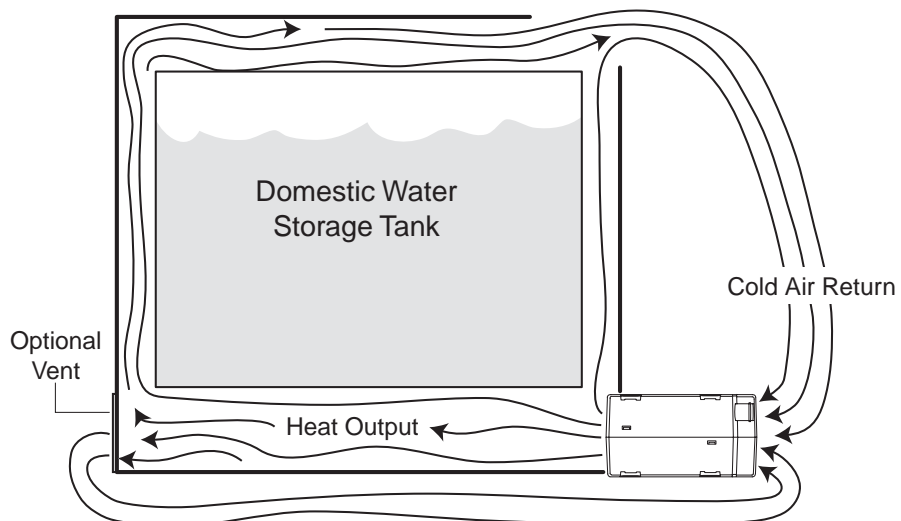

Figure 10
- A. Centralize and position the Fresh Water Tank Heat Exchanger in the Domestic Water Storage Tank Plumbing Bay area so even-heat distribution will be achieved, see Figure 10.
- B. Sufficient ventilation (cold-air return) must be supplied to the Fresh Water Tank Heat Exchanger, see Figure 10. Mounting the Heat Exchanger without sufficient ventilation will severely reduce its overall performance (heat output). Return-Air should be supplied from the same compartment as the Fresh Water Tank Heat Exchanger.